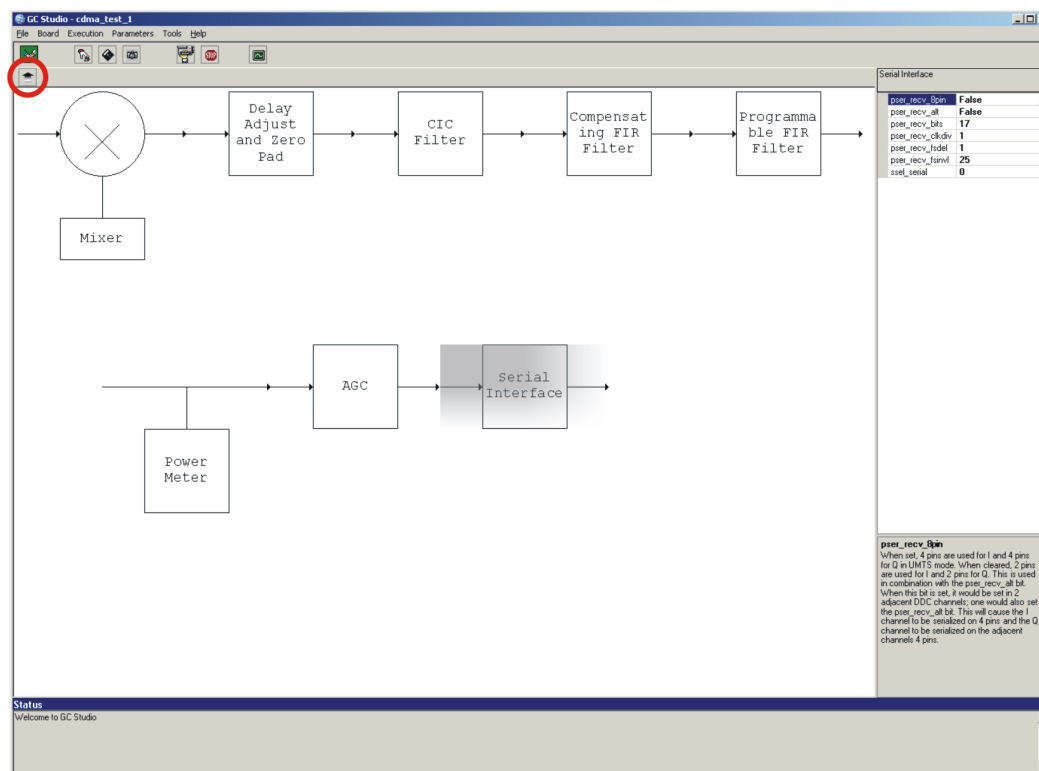

**Figure 15. CDMA – AGC Block**
26. Click on "OK". Select the AGC block and set the registers as shown in Figure 15.